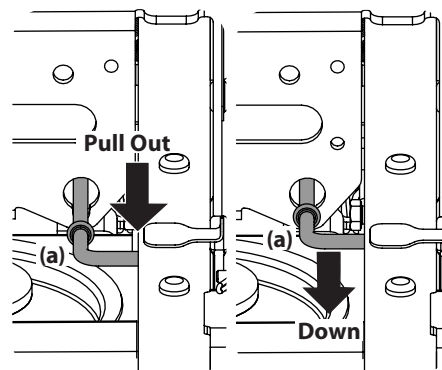

Figure 12
- Engage the transmission bypass by pulling out on the bypass rod (a) and then placing it down in the slot before releasing. See Figure 12.